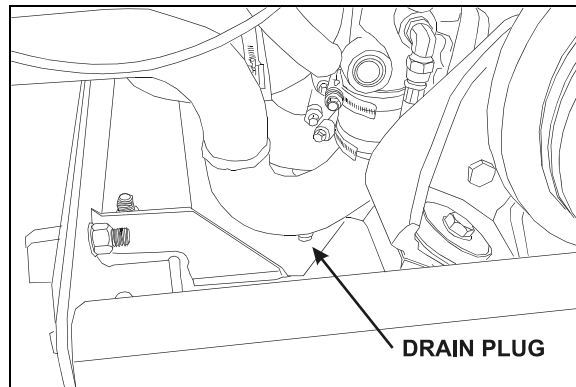

FIGURE 14: WATER PUMP DRAIN PLUG
3. Unscrew the water pump housing inlet line drain plug (Fig. 14).